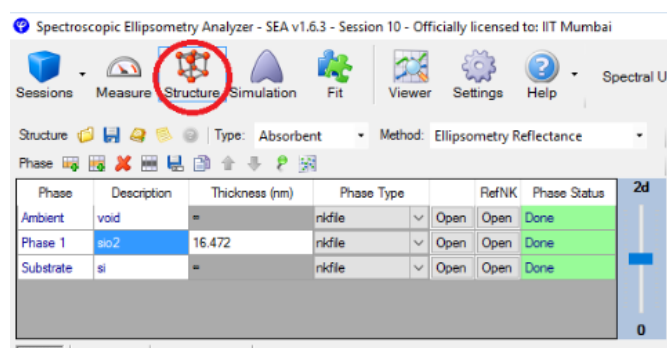

Figure.10
16. Go to “Structure” and build your sample model and initialize the model parameters. (Figure. 10)